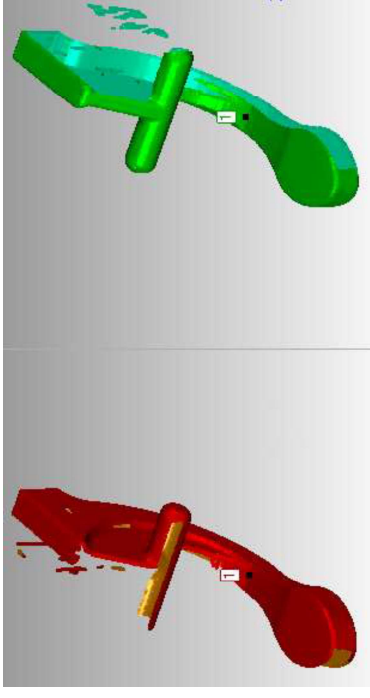

Figure 34
6. Pick a common point that is available in both the **Fixed** (red) and **Floating** (green) view ports, see **Figure 34**.